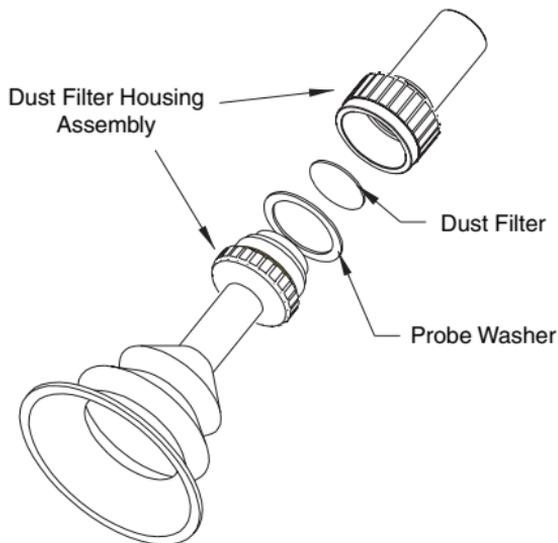

Fig. 5-7 Dust Filter Assembly
1. *Unscrew the filter assembly (Fig. 5-7).*